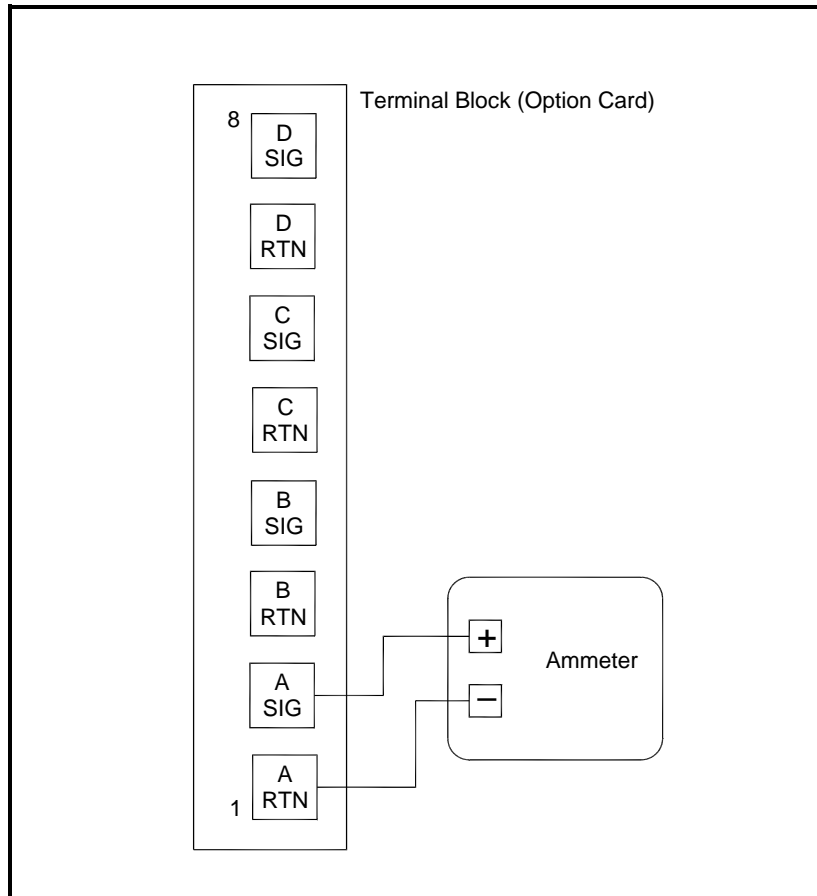

Figure 1-2: Ammeter Connection (Output A)
**IMPORTANT:** *The procedure for calibrating all outputs is the same. However, when calibrating a different output, be sure to reconnect the ammeter to the appropriate pins on terminal block I/O. See Figure 1-1 on page 1-2 or Figure 1-2 above for the correct pin numbers.*